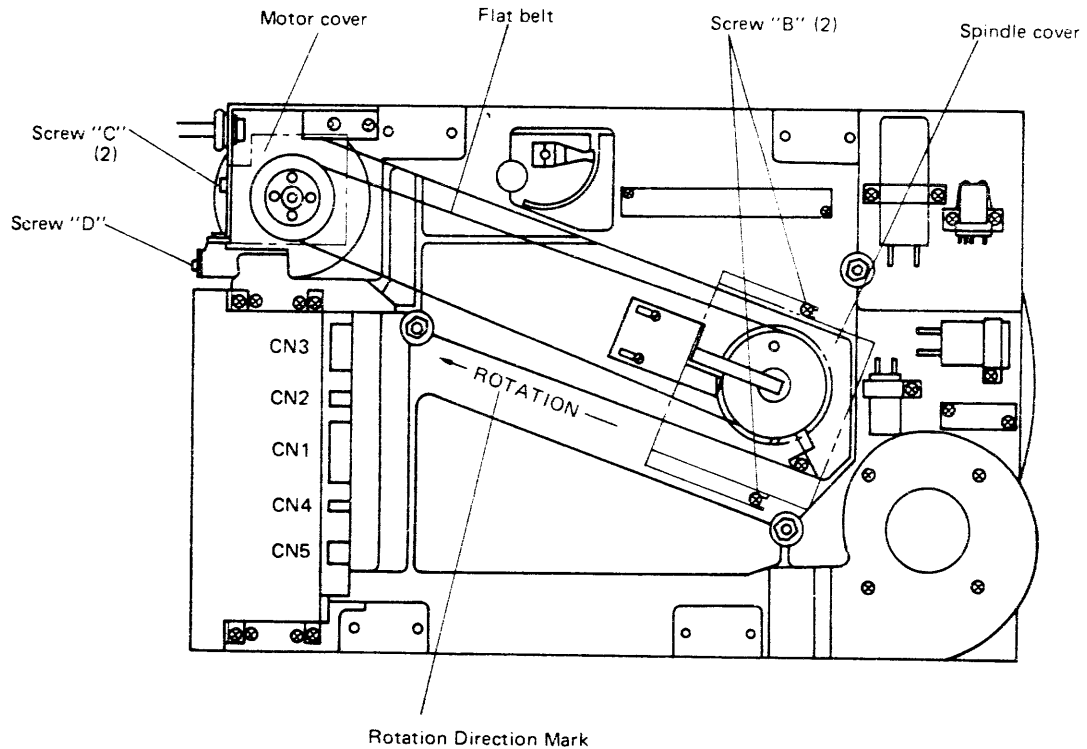

Figure 6-5-7 Belt Replacement
- (1) Loosen screws "B" (2) and remove screws "C" (2) shown in Figure 6.5.7, and remove spindle cover and motor cover.
- (2) Lock spindle (see paragraph 3.4.3).
To replace and adjust spindle grounding plate proceed as follows (see Figure 6-5-7).